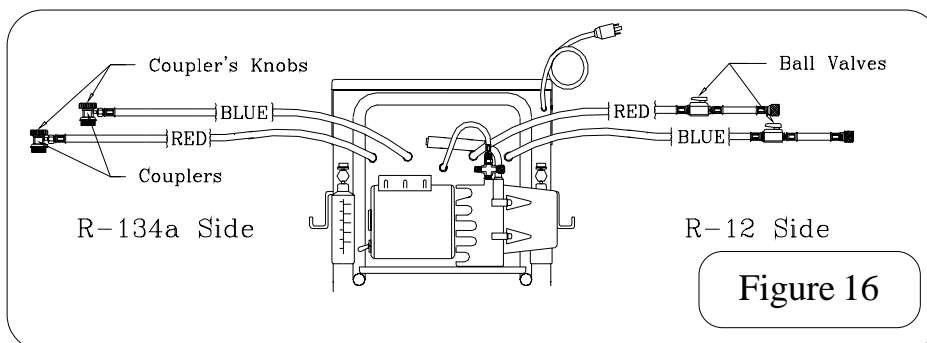

Figure 16
2. For the R-134a a/c systems, turn the coupler's valves, (blue and red) clockwise. For the R-12 a/c systems, open the ball valves at the end of the 96" blue and red hoses. (Refer to Figure 16).